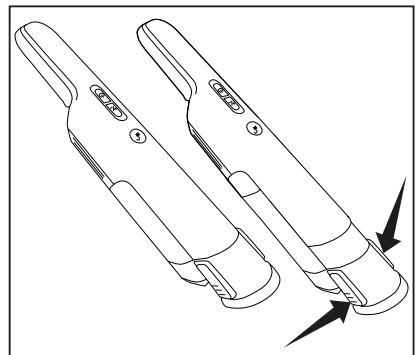

Fig. 3
1. The dust bin capacity can be enlarged by pressing the buttons on the sides of the dust bin and extending it outward (Fig. 3).